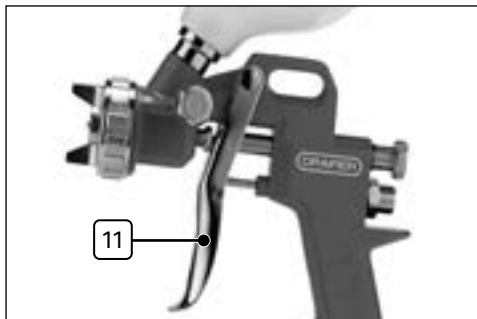

Fig. 13
Paint is released from the spray gun by squeezing the trigger (11) (Fig. 13):